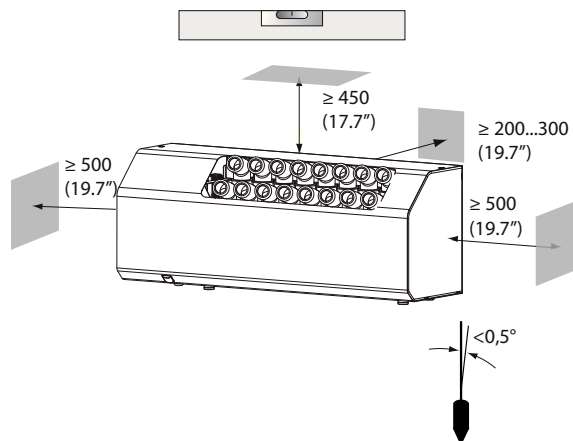

Fig. 1.b
- Position the humidifier horizontally using a spirit level, observing the minimum clearances in mm (see Fig. 1.b) to ensure the correct flow of supply air and allow the required maintenance operations.